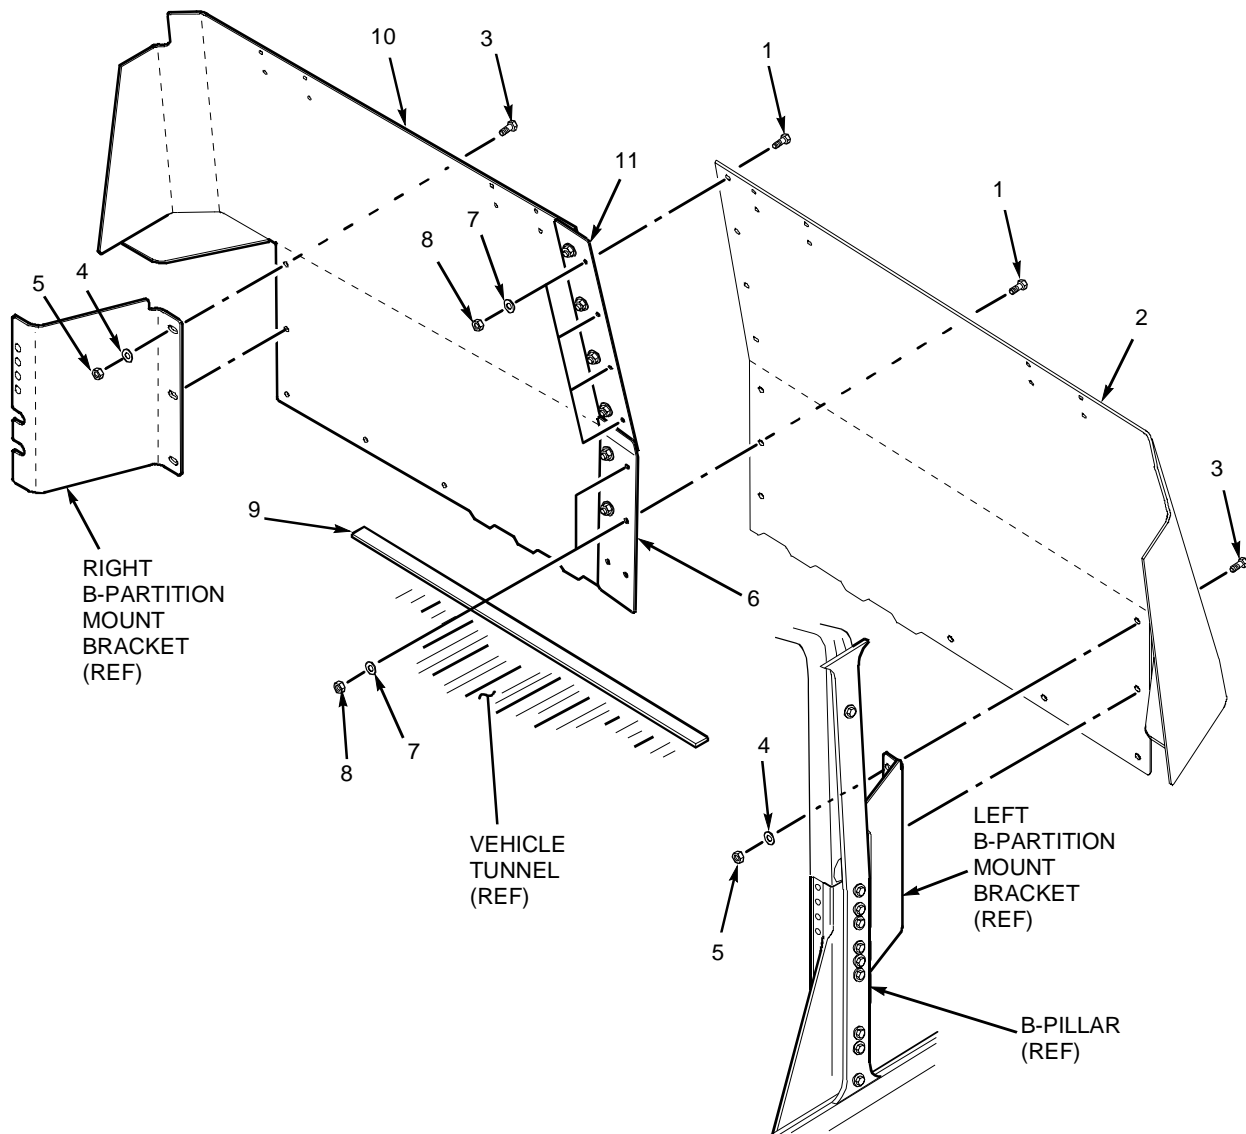

Figure 2-20. B-Partition Removal (2 Door Only)
- 3) Remove B-partition assemblies as follows (see figure 2-20):
- Remove four capscrews (3), washers (4) and locking nuts (5) securing right and left B-partition assemblies (10 and 2), upper gap strip (11) and lower gap strip (6) to right and left B-partition mount brackets. Discard locking nuts (5).
- Remove 12 capscrews (1), washers (7) and locking nuts (8) disassembling upper gap strip (11) and lower gap strip (6) from right and left B-partition assemblies (10 and 2). Discard locking nuts (8).
- Peel up B-partition rubber strip (9) from vehicle tunnel. Discard used rubber strip.